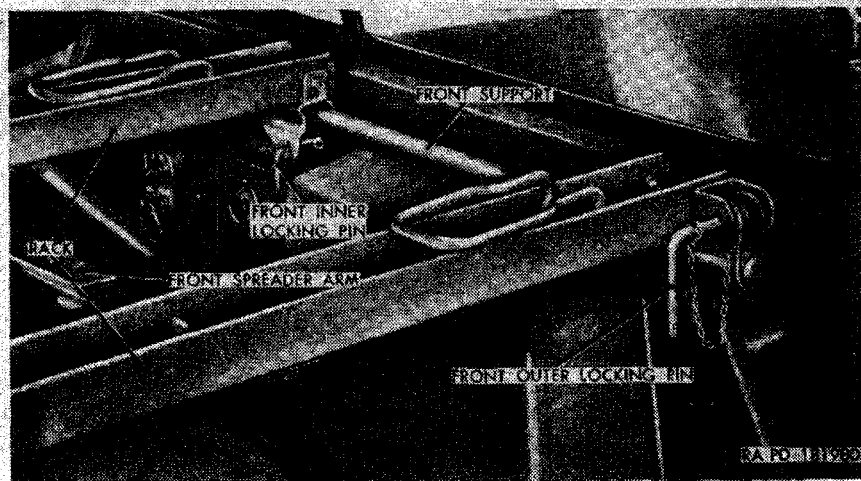

Figure 199. Upper litter rack front connections.
- (1) *Removal.* Working in the driver's compartment, withdraw the upper litter rack front inner locking pin (fig. 199) from the hole in the bracket front side on the upper litter rack underside to unlock the rack inner side from the upper litter front support. Withdraw the upper litter rack front outer locking pin from the bracket on the rack front outer side and the bracket on the front support to unlock the rack outer side from the front support. Push the middle of the upper litter rack front spreader arm forward to unlock it. Pull the rack inner side toward the outside of the vehicle until it is up against the rack outer side. Working at the rear of the vehicle, withdraw the upper litter rack rear outer locking pin (fig. 200) from the bracket on the rack outer side and the support bracket on the right rear side top bow. Push the middle of the upper litter rack rear spreader arm to the rear to unlock it. Slide the rack inner side toward the outside of the vehicle until it is up against the rack outer side. Unhook the upper litter rack hanger from the center rear top bow. Remove the rack from within the vehicle.
- (2) *Installation.* Position the upper litter rack within the vehicle so that rack front end rests on the upper litter front
support and the rear of the inner side rests on the support of the right rear side top bow. Hook the upper litter rack hanger (fig. 200) over the center rear top bow. Lock the rack inner side to the support bracket on the rear side top bow by inserting the upper litter rack rear outer locking pin through the support bracket and the bracket on the rack outer side. Working in the driver's compartment, lock the rack outer side to the upper litter front support, by inserting the upper litter rack front outer locking pin (fig. 199) through the bracket on the rack front outer side and the bracket on the support. Lock the rack inner side to the support by inserting the upper litter rack front inner locking pin through the front side of the bracket on the rack underside. Push the rack inner side toward the center of the vehicle. Lock the rack in extended position by locking the upper litter rack front and rear spreader arms.